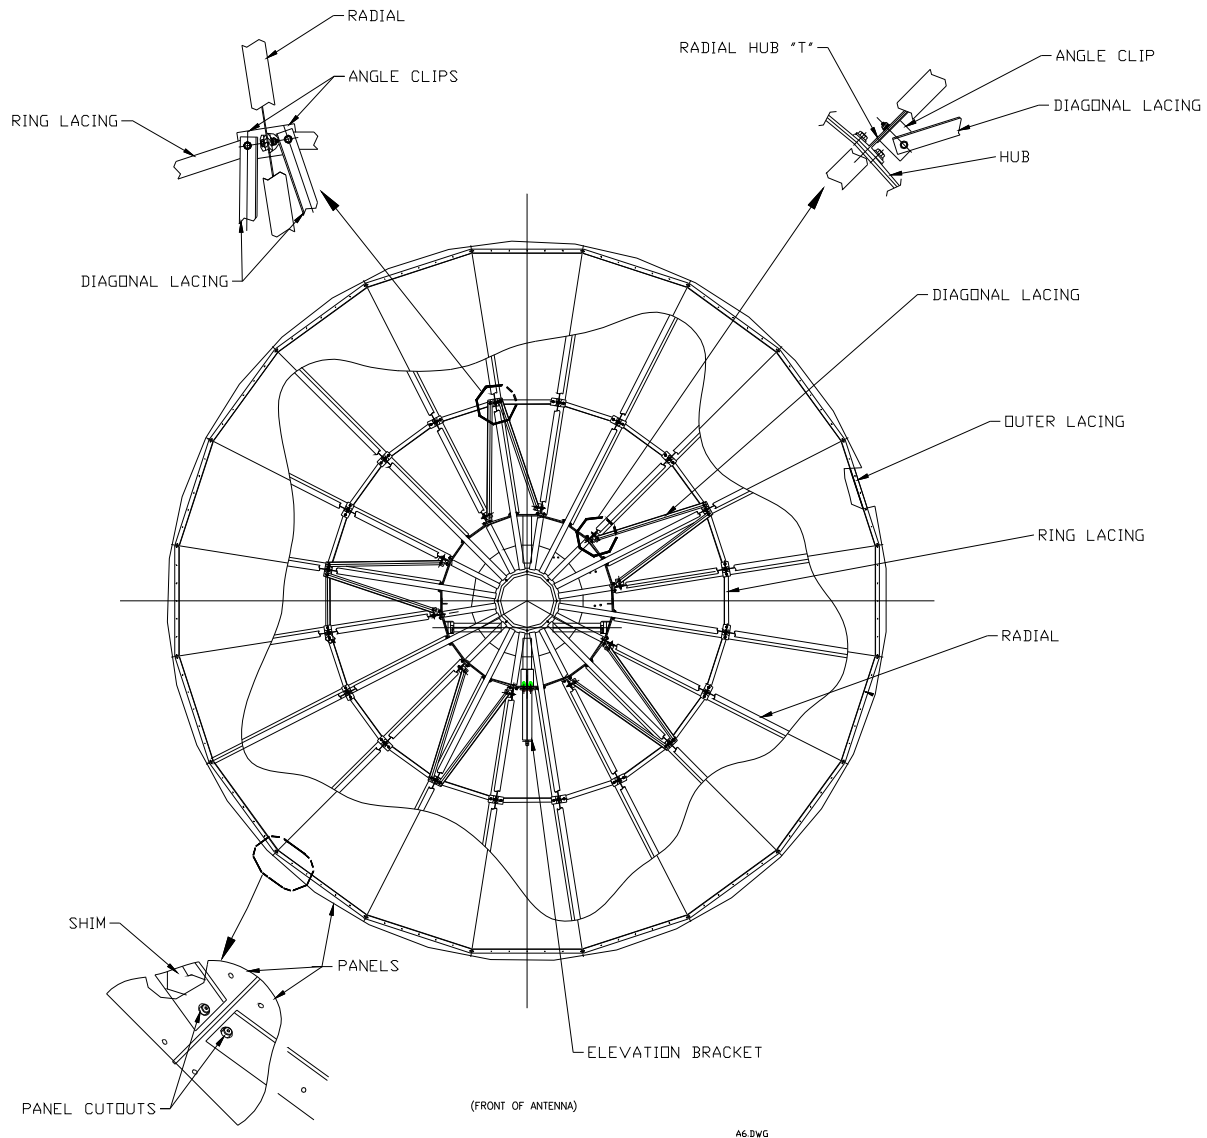

Figure 3-5. Reflector Lacing Assembly
Install the 20 contoured outer lacing members using the 1/4" diameter hardware provided. (See Figure 3-5 and Drawing 630001). Finger-tighten hardware.
2. Maneuver a panel so that it lies on top of two adjacent radials and the outer lacing member in a reflector bay. Temporarily hang the panel from the heads of the outer lacing mounting bolts. (See Figure 3-5).
3. Place the outer lacing shim between the panel and outer lacing member, aligning the holes in all three parts. (See Figure 3-5 and Drawing 630001).
1. Install the 2-1/2" X 2-1/2" angle clips for mounting the torsional and ring lacing. Finger-tighten the hardware. (See Figure 3-5 and Drawing 630001).